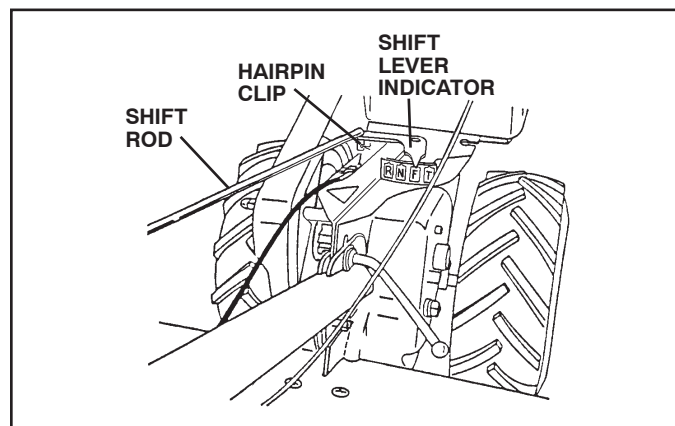

Fig. 6
CONNECT SHIFT ROD (See Fig. 6)
- Ensure shift lever indicator is in “N” position (See Fig. 6).